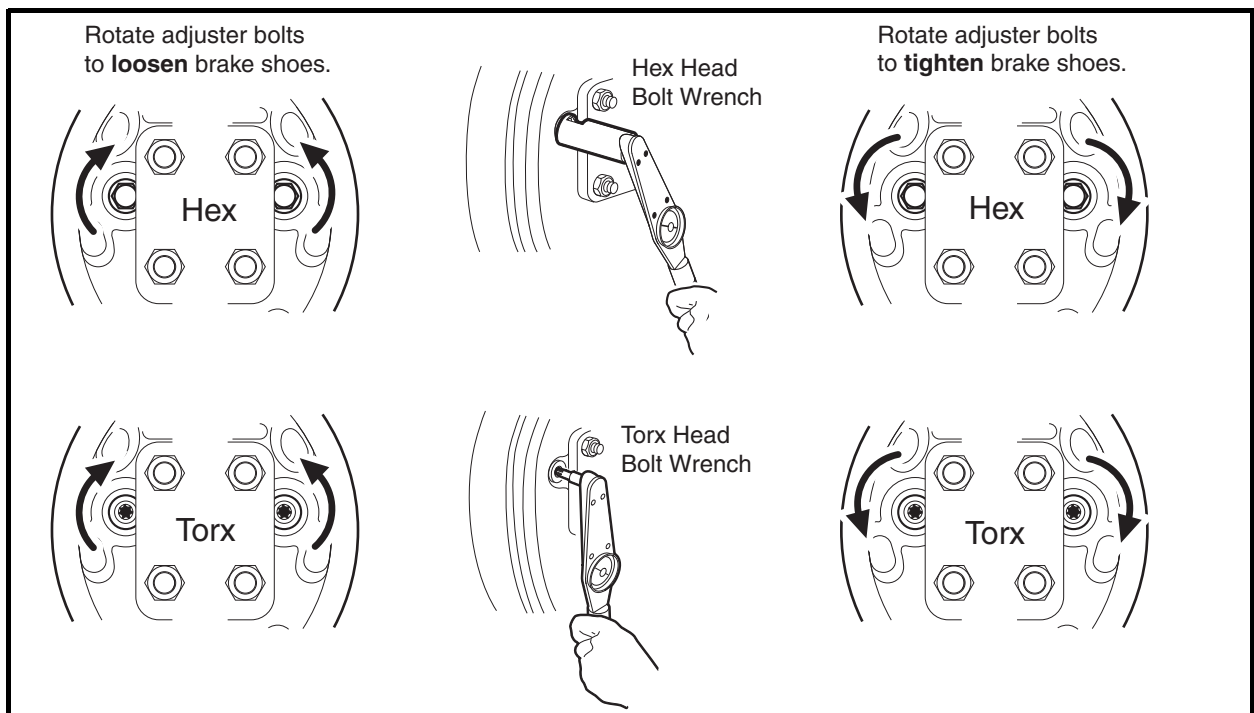

Figure 6-3 Loosen or Tighten Brake Adjusters
- 5.2. Use a torque wrench and a Torx #T-27 driver, or hydraulic brake adjuster (CC P/N 102169401), and gently rotate the adjuster bolts to increase the clearance between the brake shoe lining and the brake drum (**Figure 6-3, Page 6-7**). See following **NOTE**.